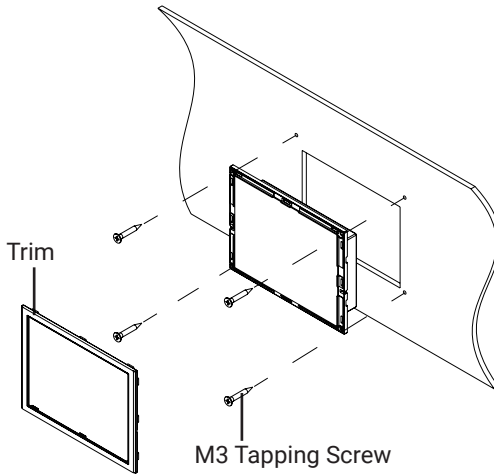

Figure 2-6
3. Fix the display panel to the boat referring to the figure 2-6.